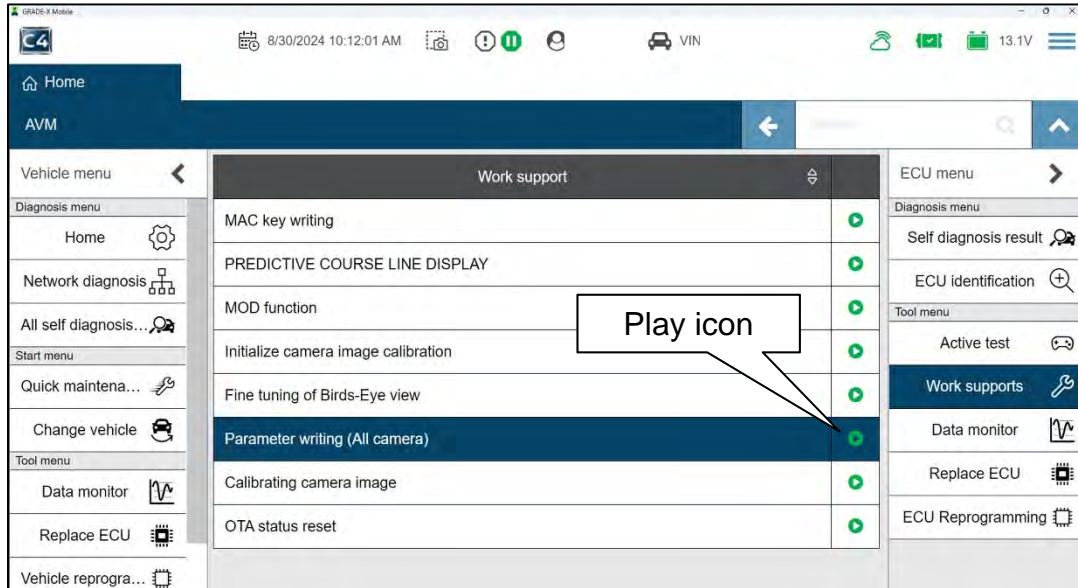

Figure 12
12. Select **Parameter writing (All camera)**, and then select the green Play icon (Figure 12).